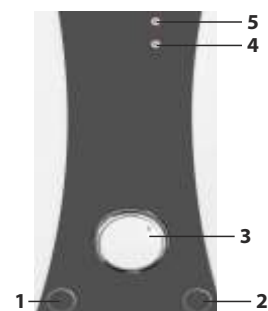

Fig. 7
3. Turn the power control knob (Figs. 7, 8) clockwise. The POWER indicator will light up (provided that water flow rate exceeds 2.4 L/min) and the water heater will start water heating.
5. For adjustment of hot water temperature, you can use the valve at the inlet connection (cold water inlet) or safety valve. When you decrease inlet flow rate of water, you increase outlet temperature of water and vice versa. To change water temperature, you can also use the power control knob (Figs. 7, 8).